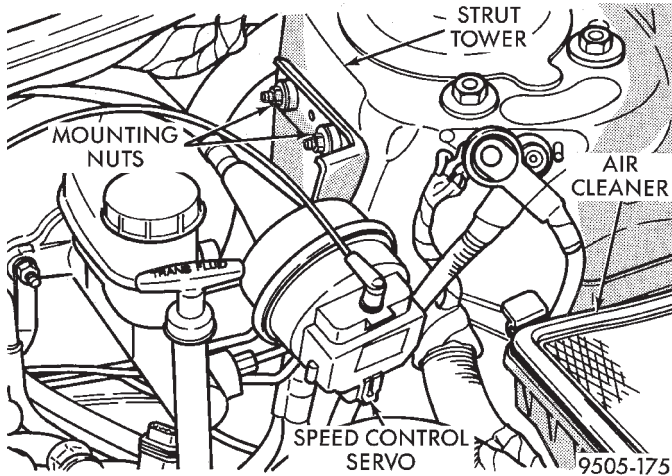

Fig. 106 Speed Control Servo Attachment To Strut Tower
(7) If equipped, remove the vehicle's wiring harness connector from the speed control servo. Remove the 2 speed control servo mounting bracket to strut tower attaching nuts (Fig. 106). Without removing speed control cable from servo, move speed control servo out of the way.
(13) If equipped, install speed control servo on the mounting studs in the left strut tower (Fig. 106). Install the 2 speed control servo bracket mounting nuts (Fig. 106). Tighten the 2 mounting nuts to a torque of 6 N·m (55 in. lbs.). Install electrical connector on speed control servo.